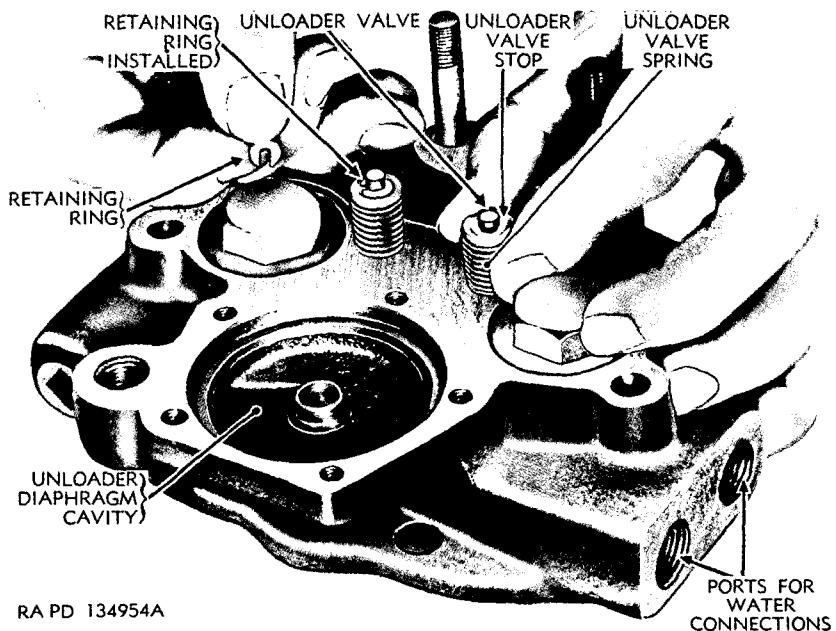

Figure 38. *Installing unloader valves.*
- (2) *Adjust unloader valve clearance* (fig. 38). Clearance between unloader lever and unloader valve stems is important. If there is too little clearance, the valves may be held open continuously and the compressor will deliver no air. If there is too much clearance, the valves may not open sufficiently to unload compressor. The desired clearance is 0.012 inch. Minimum clearance has been set at 0.010 inch and maximum at 0.015 inch. Insert a 0.012-inch feeler gage between adjusting screw and unloader valve (fig. 38) to obtain desired clearance and tighten lock nuts.